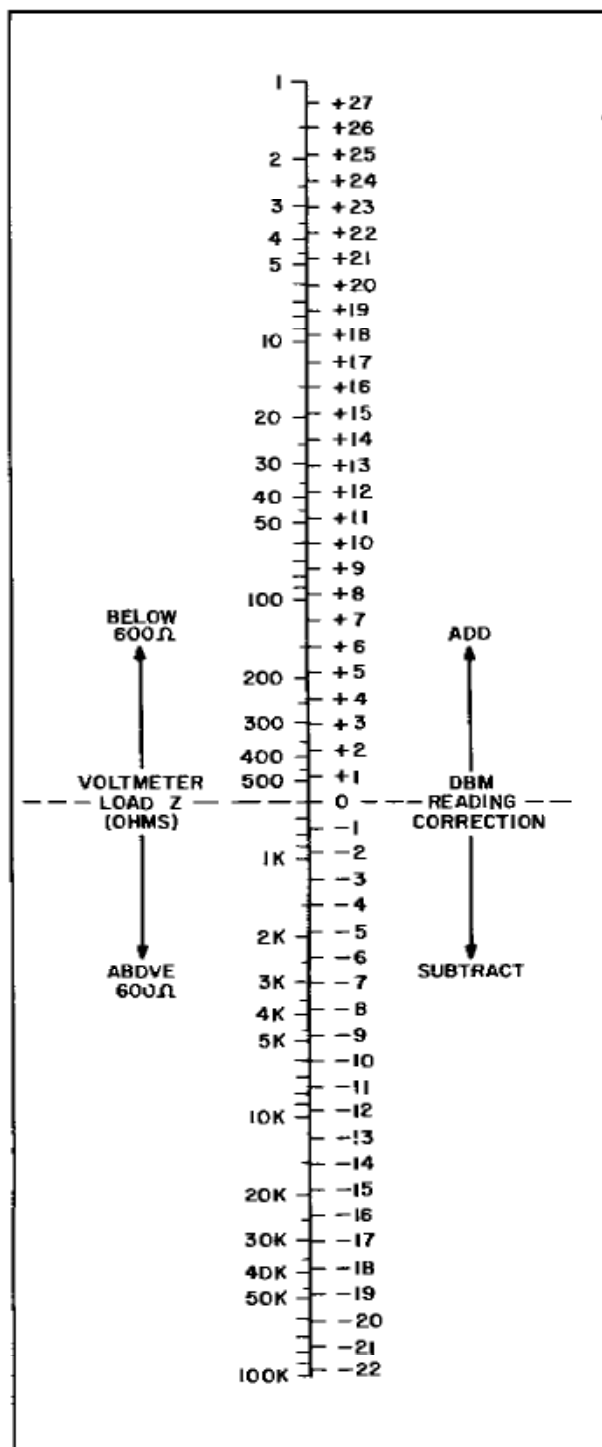

Figure 2-2. Nomograph of DB Connections vs. Load Impedance for DBM Readings in Voltmeter Operation.
- Fig. 2-2. Nomograph of DB Correction vs. Load
The decibel scale is drawn on the basis of a 600 ohm load impedance, and a zero voltage reference level of 0.775 volt\*. This scale reads directly in dbm on the 1V range when the load impedance is 600 ohms. On other ranges, 10db per range must be added or subtracted for each range above or below the 1V range. The cumulative correction is given by the inner circle of numerals on the RANGE dial for each range position. With other impedances, a correction must be added or subtracted according to the graph of Fig. 2-2. This facility is valuable when it is required to make absolute power measurements in loads of any impedance in either dbm or watts. To convert dbm values into milliwatts, refer to the table of Milliwatts vs. DBM, Fig. 2-3.
Consulting the graph of Fig. 2-2, we read the correction for 200 ohms load impedance as +5db. Adding in the impedance correction, we obtain the true dbm value: